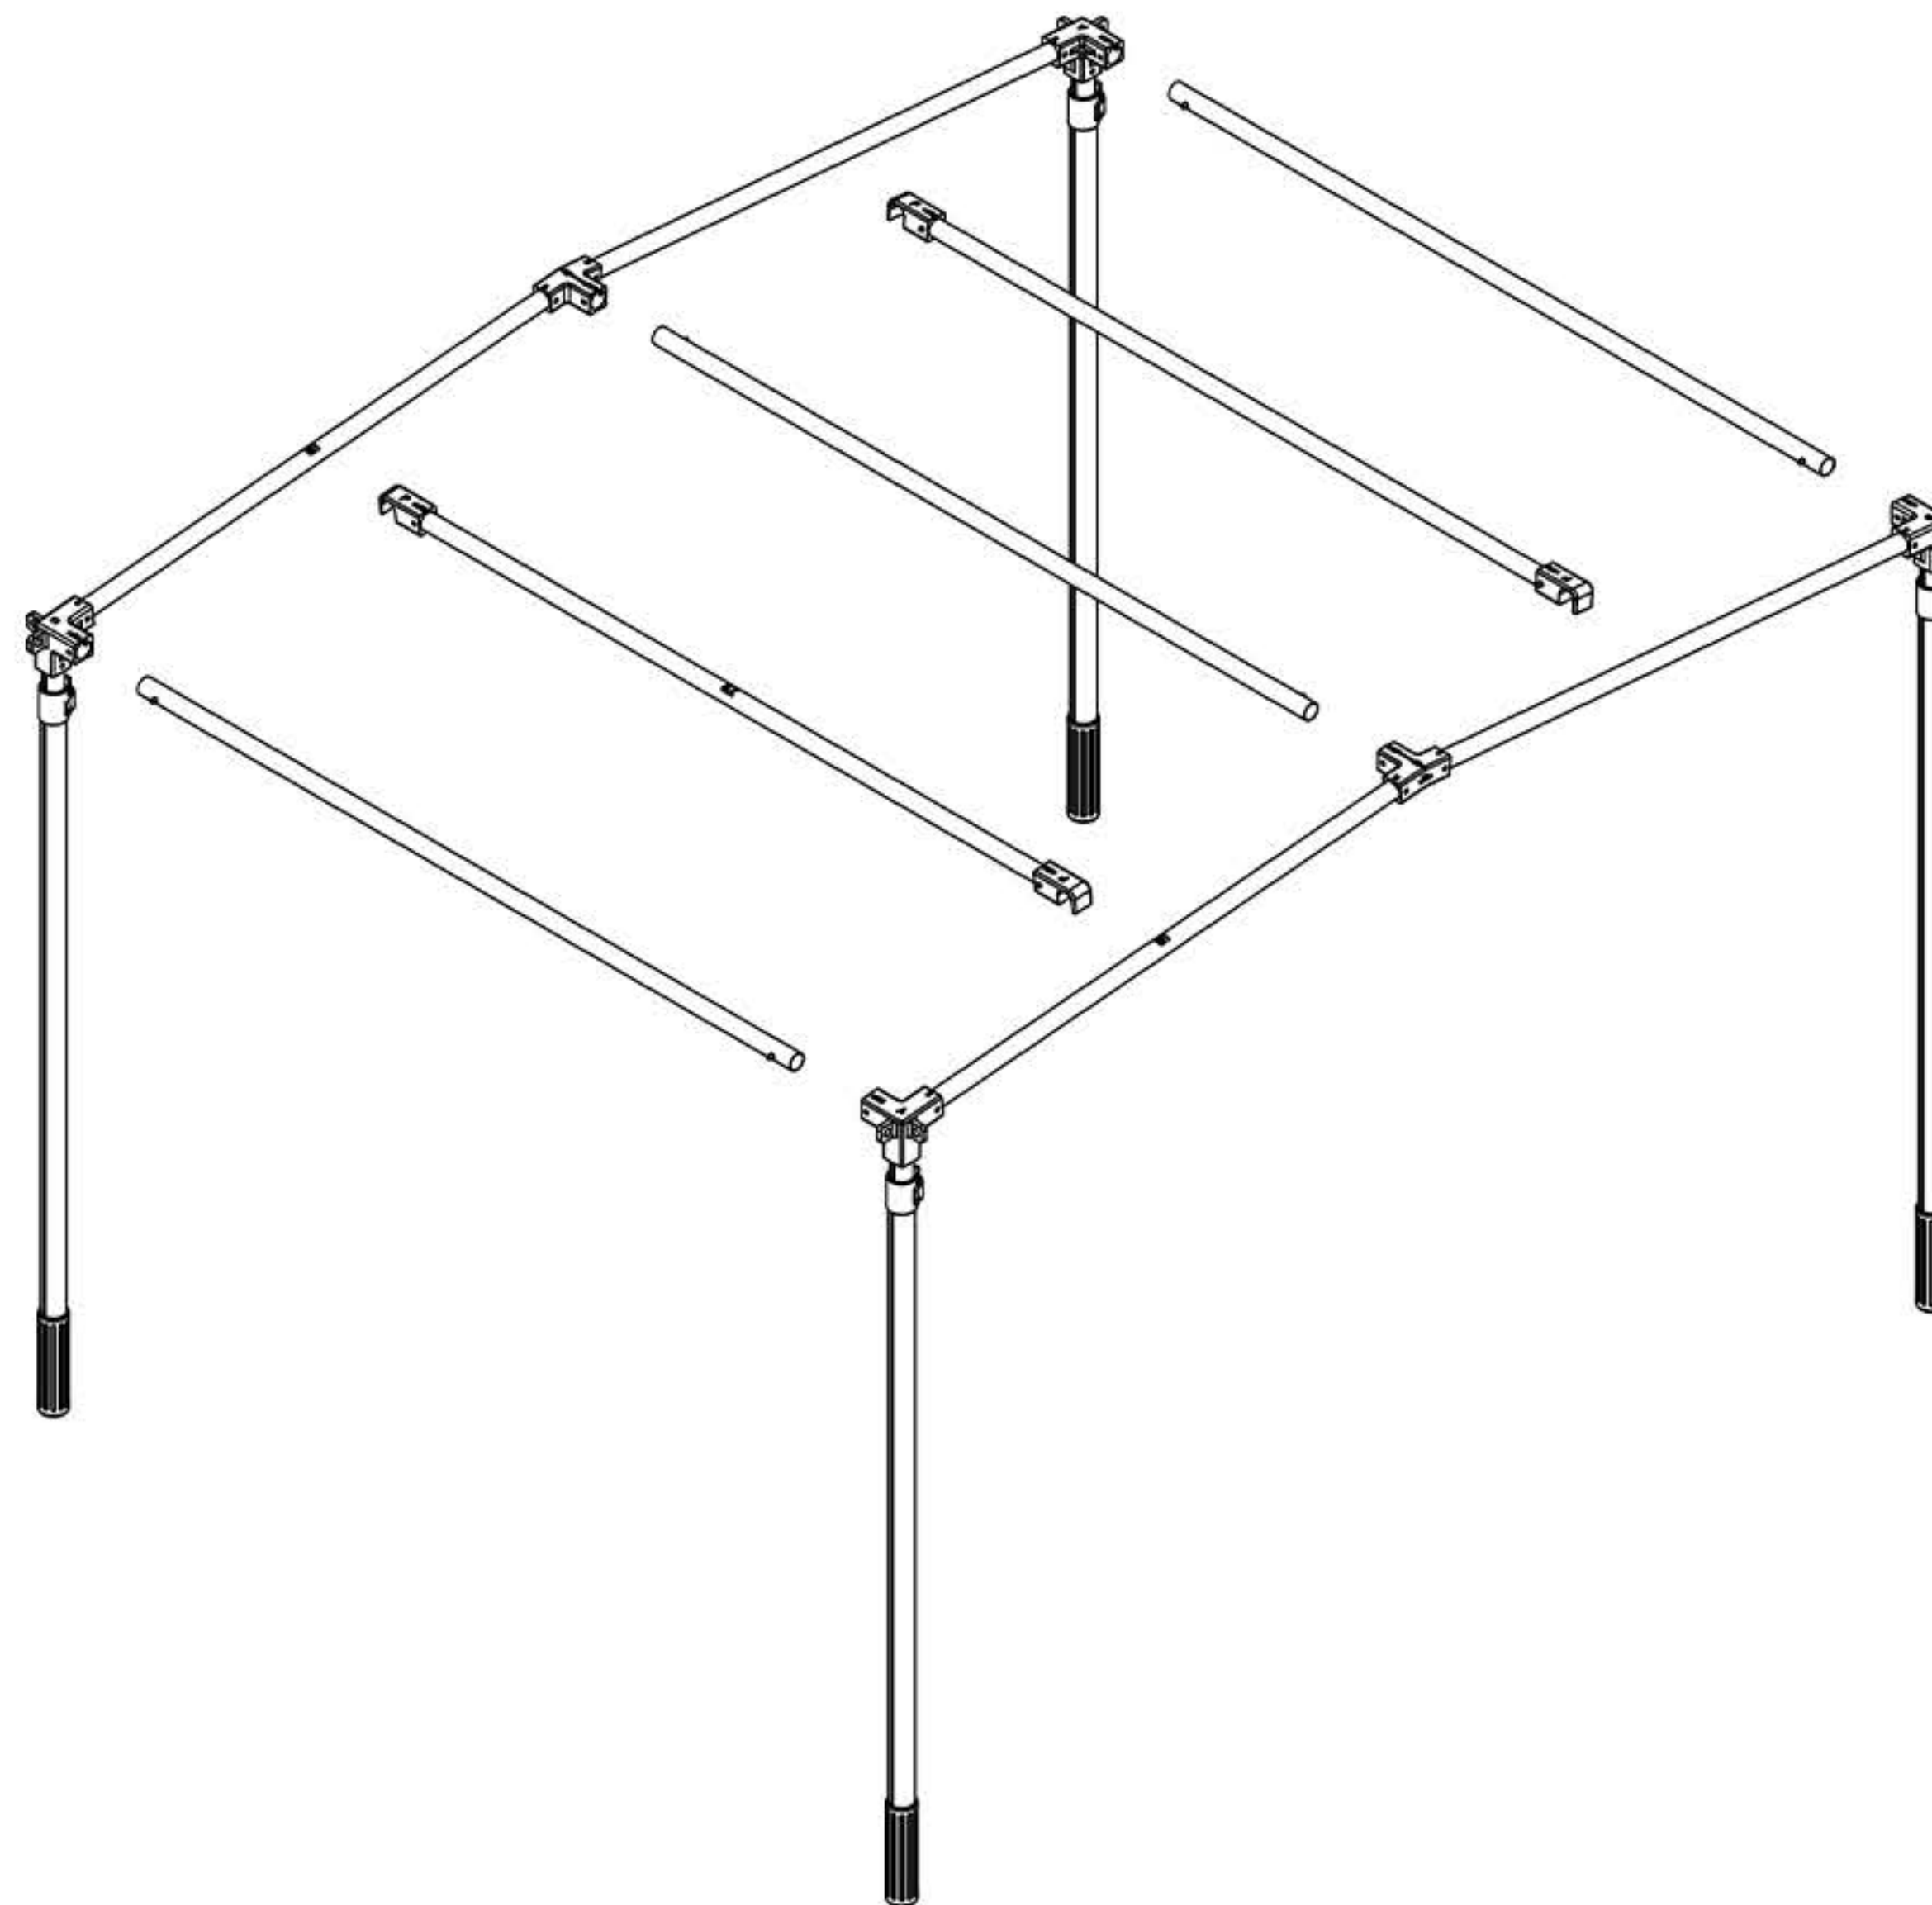

Figure 2 - Assembly diagram
- Assemble components 2.1 to 2.3 in sequence according to Figure 2.